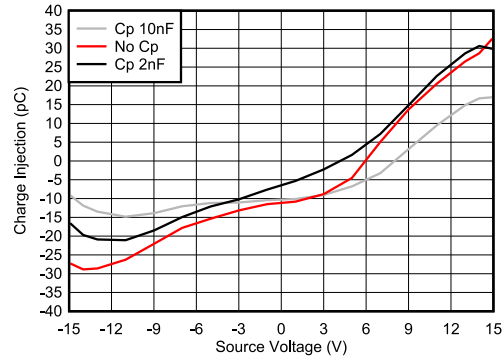

图 8-2. Charge Injection Compensation
The TMUX720x contains specialized architecture to reduce charge injection on the Drain (D). To further reduce charge injection in a sensitive application, a compensation capacitor (C_p) can be added on the Source (S_x). This will ensure that excess charge from the switch transition will be pushed into the compensation capacitor on the Source (S_x) instead of the Drain (D). As a general rule of thumb, C_p should be 20x larger than the equivalent load capacitance on the Drain (D). 图 8-2 shows charge injection variation with different compensation capacitors on the Source side. This plot was captured on the TMUX7219 as part of the TMUX720x family with a 100pF load capacitance.